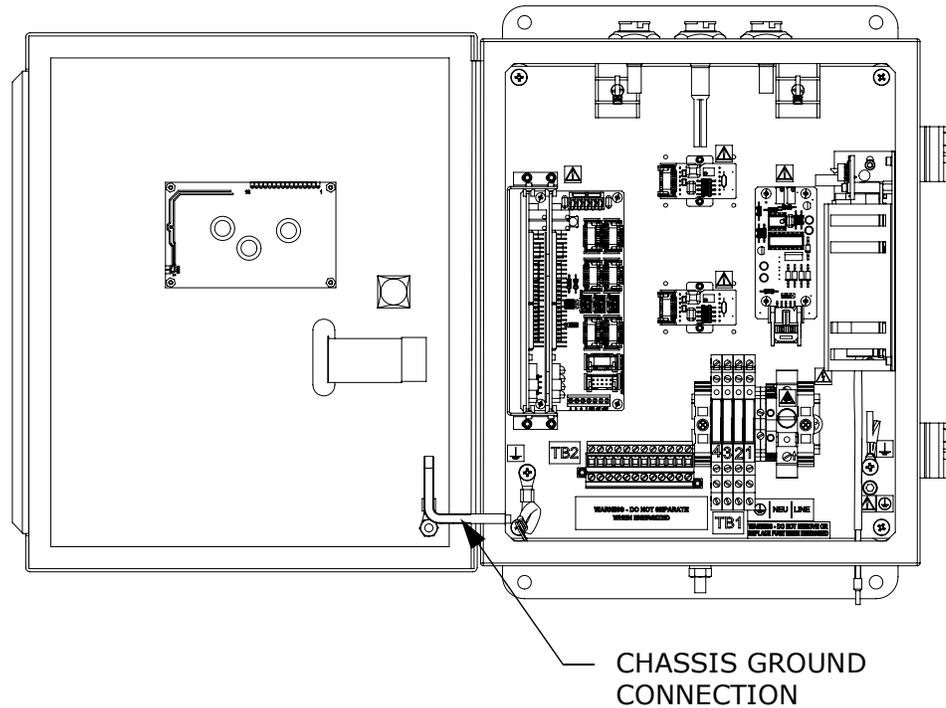

Figure 3-2 Internal view of electronics enclosure
1. Open the electronics enclosure door. Take care not to disturb the electrical assembly inside. Refer to Figure 3-2.